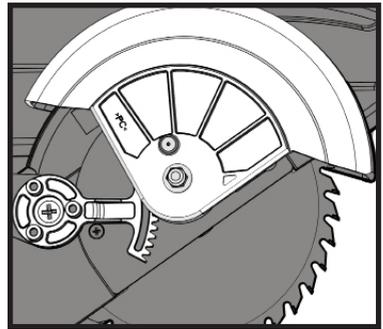

Fig 6
13. Ensure that the lower blade guard operating cog has engaged with the geared quadrant operating lever. (Fig 6)